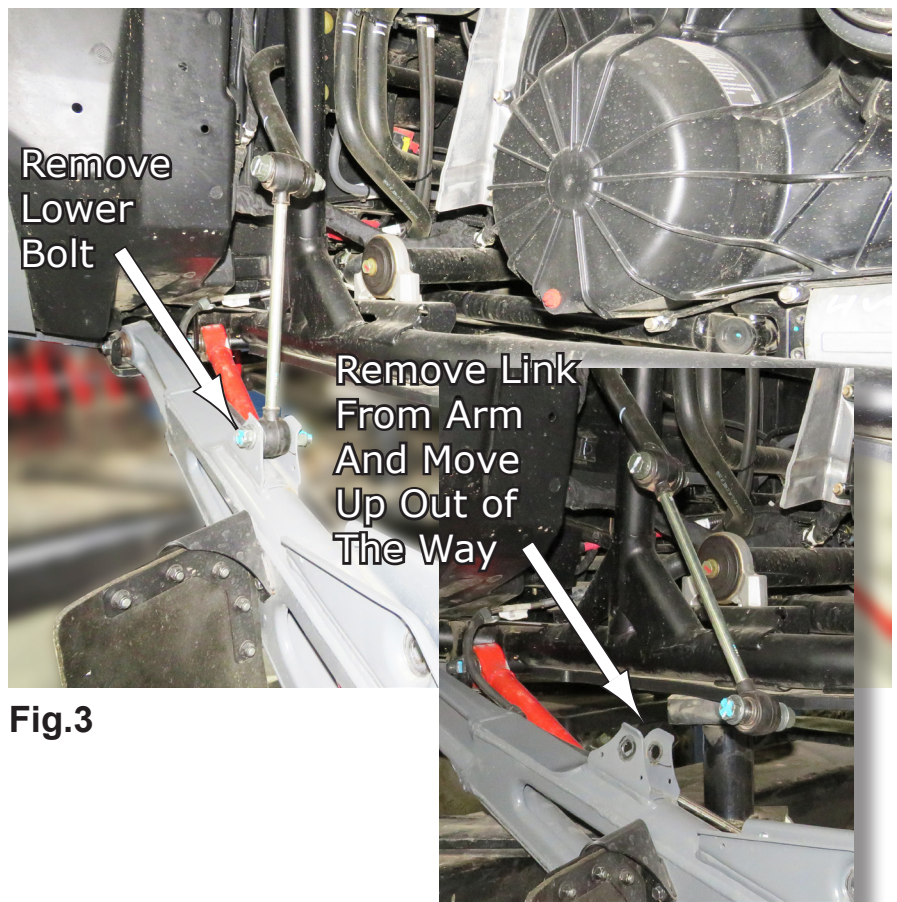

Fig.3
3. Now, remove the Lower Sway Bar Link Bolt, move link from the existing Arm, and move up out of the way for clearance. See **Fig.3**.